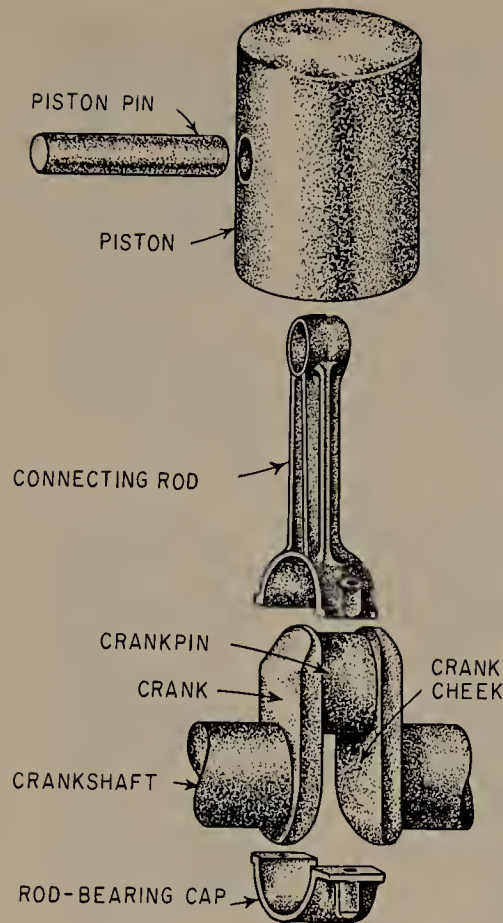

FIGURE 3.6 Piston, connecting rod, piston pin, and crankpin on an engine crankshaft in disassembled view. The piston rings are not shown.
3.3 The Crank. The piston moves up and down in the cylinder. This up-and-down motion is called *reciprocating* motion. The piston moves in a straight line. This straight-line motion must be changed to rotary, or turning motion, in most machines, before it can do any good. That is, rotary motion is required to make wheels turn, a cutting blade spin, or a pulley rotate. To change the reciprocating motion to rotary motion, a crank and connecting rod are used (Figs. 3.6 and 3.7). The connecting rod connects the piston to the crank.
The piston end of the connecting rod is attached to the piston by a *piston pin*, also called a *wrist pin*. The other end of the connecting rod is attached to the crankpin of the crank by a rod bearing cap. See Figs. 3.6 and 3.7. There are bearings at both ends of the connecting rod so that the rod can move with relative freedom. We will get to bearings later.